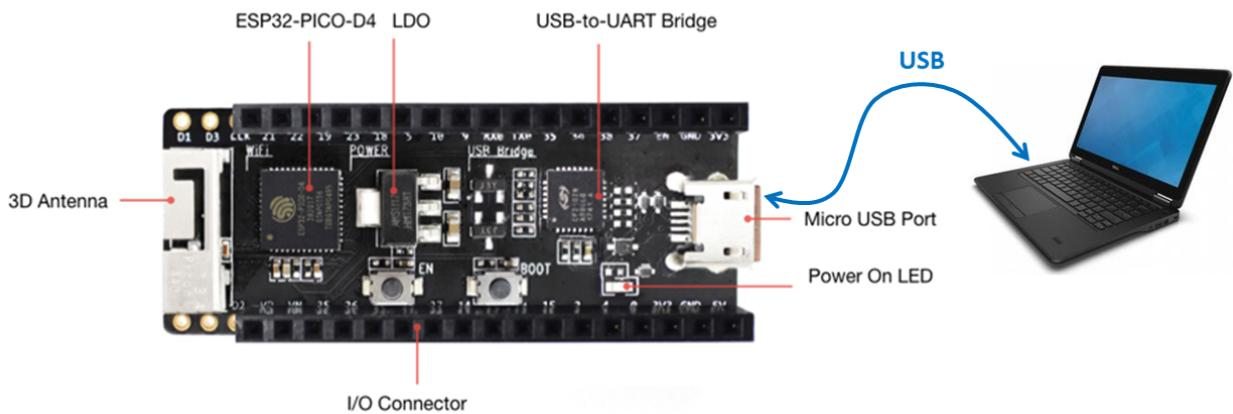

FIGURE 1.1 – ESP32-PICO-KIT board connections.
- Connect the ESP32 card to the computer via USB (cf. figure 1.1)